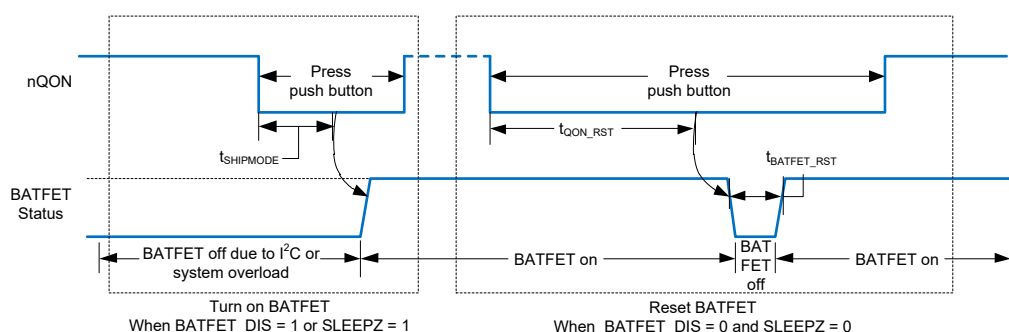

Figure 10. Left: nQON Timing to Exit Ship Mode (Enable BATFET), Right: System Power Reset (BATFET Temporarily Off)
1. Enable BATFET: Applying an nQON logic high to low transition with longer than  $t_{SHIPMODE}$  deglitch time (negative pulse) turns on BATFET to exit ship mode (Figure 10 left). When exiting shipping mode, HIZ is enabled ( $EN\_HIZ = 1$ ) as well. HIZ can be disabled ( $EN\_HIZ = 0$ ) by the host after exiting shipping mode. OTG cannot be enabled ( $OTG\_CONFIG = 1$ ) until HIZ is disabled.
2. Reset BATFET: By applying a logic low for a duration of at least  $t_{QON\_RST}$  to nQON pin while VBUS is not powered and BATFET is allowed to turn on ( $BATFET\_DIS$  bit = 0), the BATFET turns off for  $t_{BATFET\_RST}$  and then it is re-enabled resulting in a system power-on-reset. This function can be disabled by clearing  $BATFET\_RST\_EN$  bit (Figure 10 right).